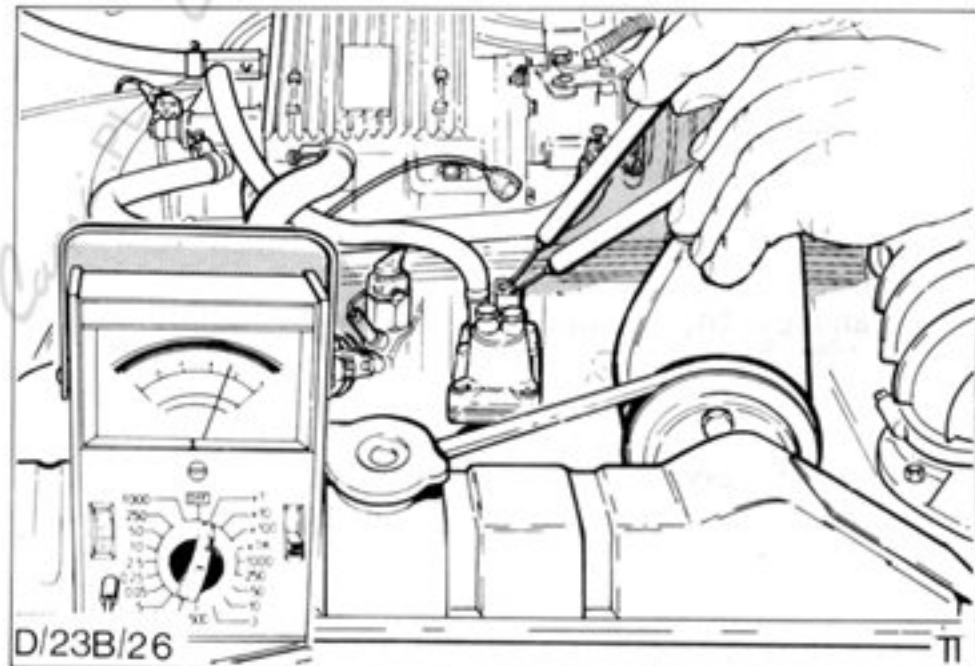

Fig.63. Resistance check at regulator socket.
- (iii) Disconnect plug and using an ohm meter check resistance between the two regulator connections, Fig.63.